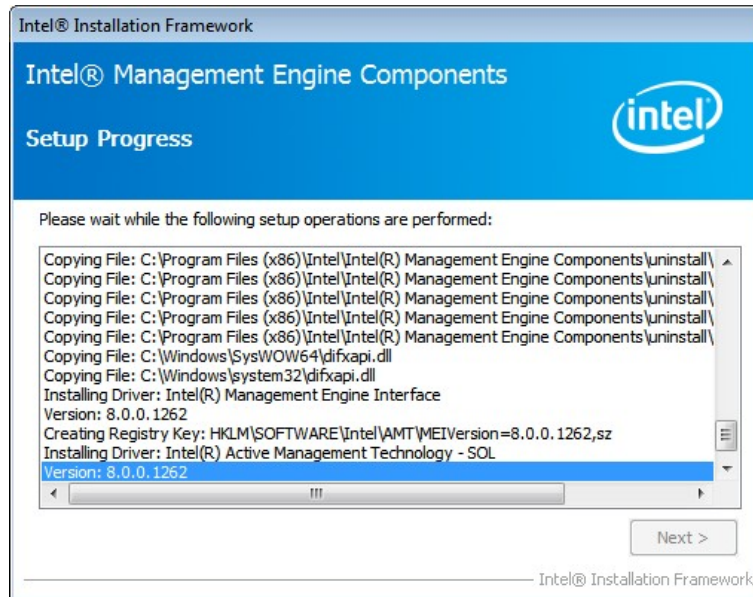

Figure 6-35: Intel® ME Driver Setup Operations
Step 9: **Setup Operations** are performed as shown in **Figure 6-35**.